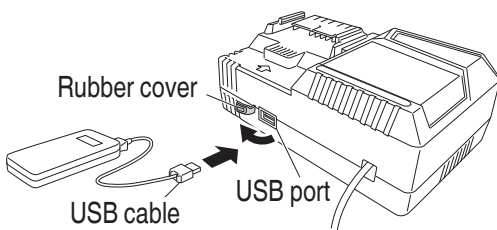

Fig. 50
- (2) Connect the USB cable. (Fig. 50)